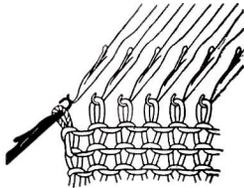

Fig. 64
- a. On the opposite side of the carriage, with latch tool, take the end stitch and the next one off the needle. (See Fig. 64)